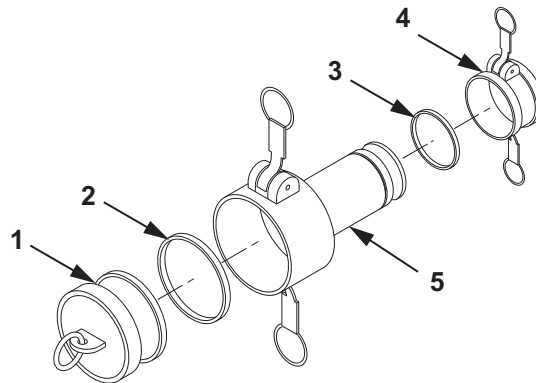

Figure 1. 4 In. Female X 2 In. Female Reducer Disassembly.
1. Remove 4 in. dust plug (Figure 1, Item 1) from reducer assembly (Figure 1, Item 5).
2. Remove 2 in. dust cap (Figure 1, Item 4) from reducer assembly (Figure 1, Item 5).
3. Remove gasket (Figure 1, Item 2) from reducer assembly (Figure 1, Item 5). Discard gasket (Figure 1, Item 2).
4. Remove gasket (Figure 1, Item 3) from 2 in. dust cap (Figure 1, Item 4). Discard gasket (Figure 1, Item 3).